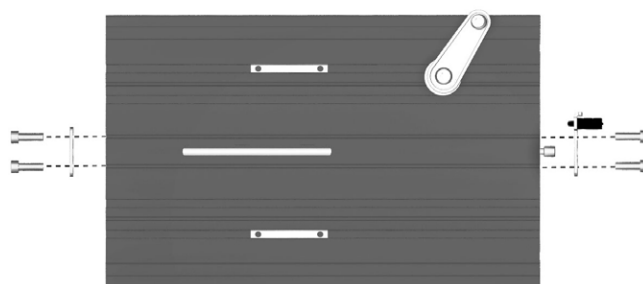

Figure 201. The adjustment bar brackets are each held in place by two screws
3. Assemble the adjustment bar brackets, which are each held in place by two screws. See fig. 201.